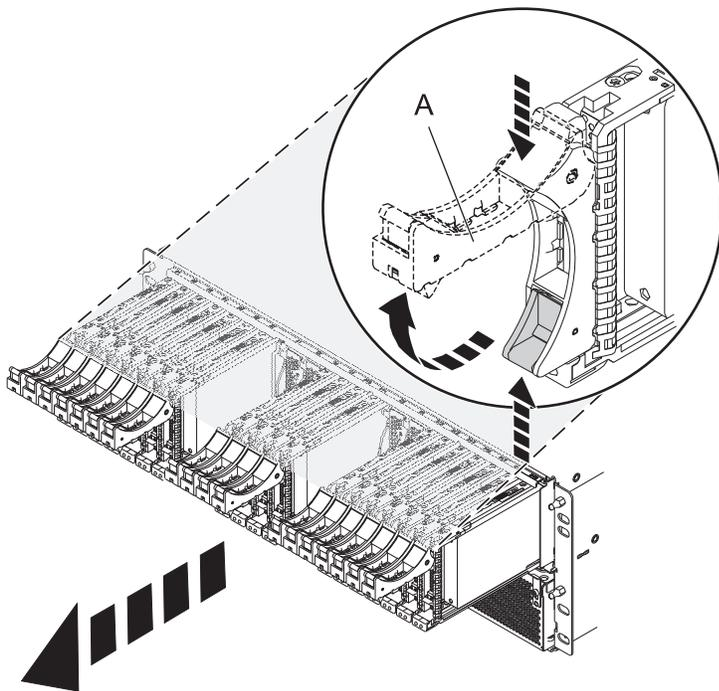

Figure 91. Removing the disk drives from the backplane
3. Remove the disk drives and fillers as shown in Figure 91.
- a. Squeeze the latch of the disk drive and pull the handle (A) toward you to release the disk drive.